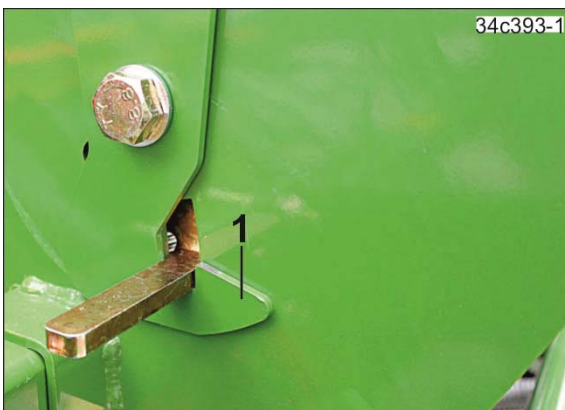

Fig. 152
2. Make sure that the bar (Fig. 152/1) locks into place.